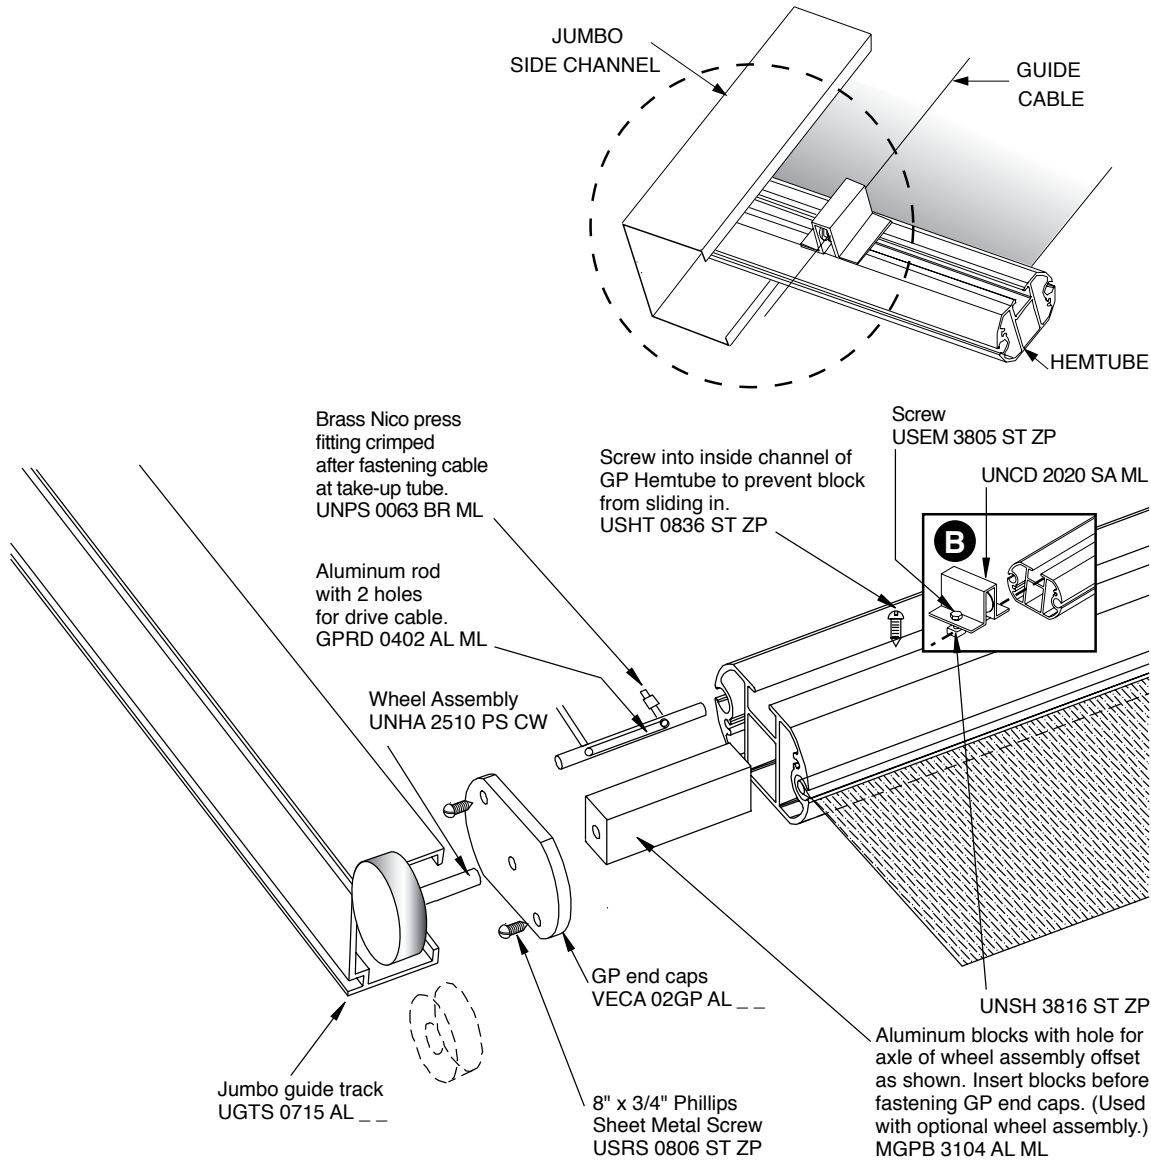

Fig. 11
- B) Starting at the 1/4 point on the Cable Tube, tightly wrap each cable around the Cable Tube 3 to 4 times in the direction of the center of the tube. The cable must be wrapped uniformly and must not wrap over itself. Using the 1/2" (13mm) long screws and washers provided, place one screw with 2 washers at a point close to the loose end of the cable (**do not run the screw all the way in**). Wrap the loose end of the cable between the two washers and around the screw then tighten the screw to secure. **Do not place the screws in the SnapLoc® Spline Mounting Raceway as the screws may penetrate the motor (see Fig. 11). This may damage the motor and void the warranty.** Use the scored line next to the SnapLoc Spline mounting raceway as a starting point for the screws. This ensures that the screws line up on the tube. If installed correctly, the cable should wind towards the outside